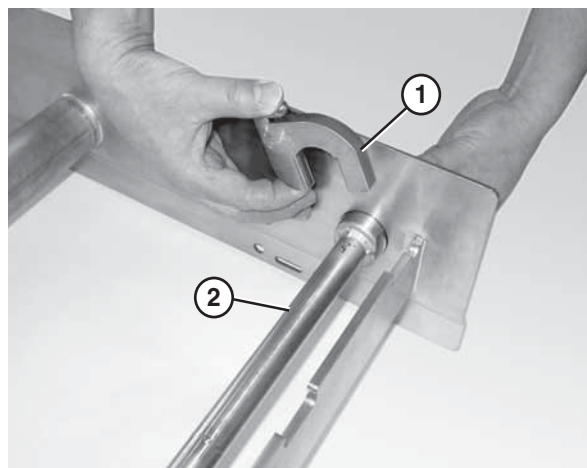

Figure 27
2. Attach the key stops (Figure 27, item 1) to the tip up shaft (Figure 27, item 2). The rounded end of the key stop should be facing the tail.